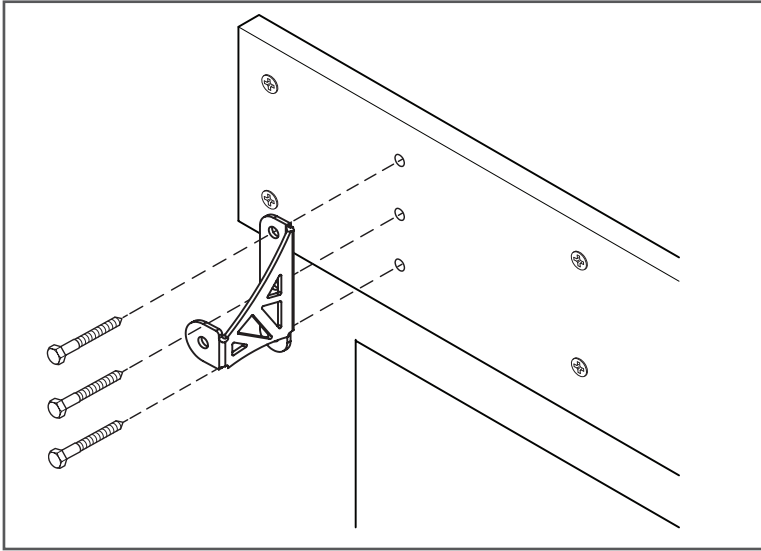

Figure 9
10. Install spacers (A.) with a socket wrench using lag screws (B.) (Figure 9).